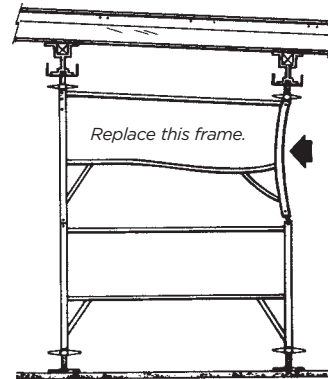

Figure 42-20: Frame Bent Out of Shape
- If frames do not ride tightly on top of one another after tightening, one or more are out of square and should be replaced (Figure 42-20).